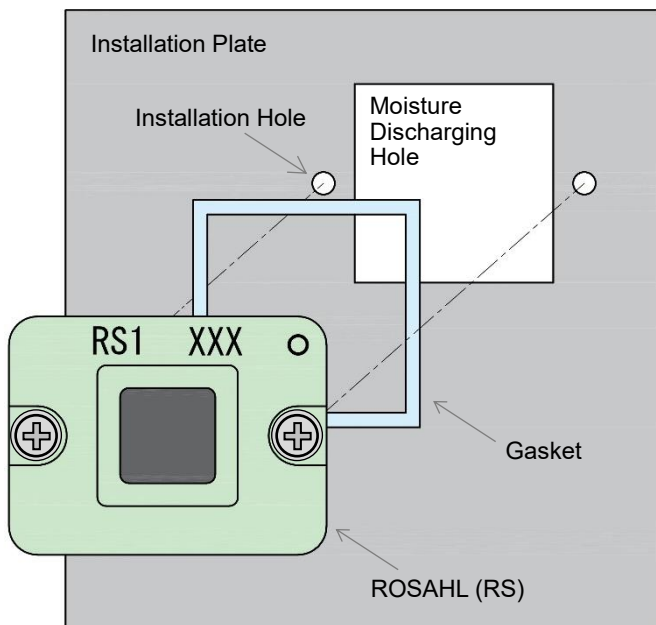

Fig.1 Installation Image
(Refer to the Fig.1~3)
- *5 Refer to the Figure 1~3.